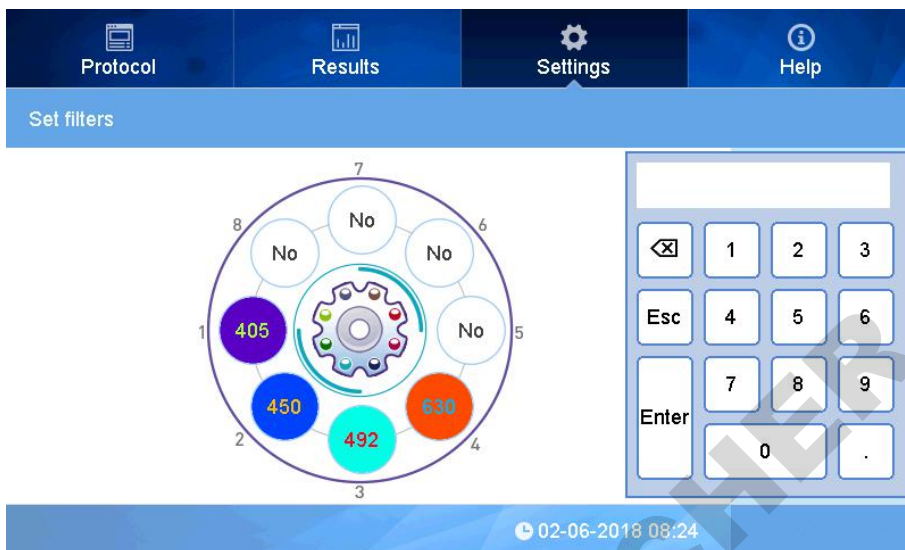

fig 49
- lick the blank position No., input the wavelength, default unit is nm(Fig 49).